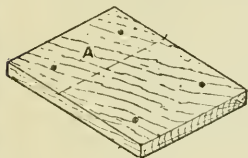
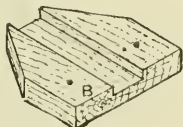

Fig. 16
Fig. 17
Figs. 16 and 17.—Details of Home-made Plough
Home-made ploughs are serviceable tools, and can be constructed from simple material, such as a chisel, some pieces of wood, and a few screws. Knock off the handle from an ordinary $\frac{1}{2}$ -in. chisel having a "shoulder" near the haft, and replace it with a cork; cut to the shape of Fig. 16 a piece of thin wood (say $\frac{1}{4}$ in. thick) $2\frac{1}{2}$ in. in breadth, its length depending on the length of the chisel. Place the chisel on the wood so that the cutting end overhangs about $1\frac{1}{8}$ in.; at the other end mark where the shoulder of the chisel touches the wood, and cut across just above the mark so that the shoulder falls over the edge and allows the chisel to lie flat on the wood. Cut another piece of wood thicker than the last (of full $\frac{1}{2}$ -in. stuff) to the shape of Fig. 17.
B. Put the second piece of wood, groove downwards, on the first one so that the square end B of Fig. 17 rests upon the portion marked A of Fig. 16, allowing the pointed end to overhang. Screw the two pieces together from underneath, taking care
to countersink the screw-heads. In the tunnel thus formed insert the chisel with its *bevelled edge upwards*, as it must always be when in use, and see that it has a rather loose fit. If it is all right, the cutting edge will project about $\frac{3}{8}$ in. at one end, and the shoulder will just fall over the edge at the other end. In a piece of wood c (Fig. 18), measuring, say, 2 in. by $\frac{1}{2}$ in. by $\frac{1}{2}$ in., make a groove of the same width as before, but a trifle deeper than the groove is at B (Fig. 17). Screw this last piece to the foundation A (Fig. 18) so that the groove en-
of course, intended to be pushed to and fro upon the right cheek of the press; but the tool, as it stands, will not cut straight through so as to leave a nice flat surface, but will rise until it has made a "hog's-back." To prevent this, provide a bar of wood *H* (Figs. 18 and 19), which should be fixed at one end to the top *G* of the plough, and should rest at the other end on a guide-rail *J* fixed to the top face of the left cheek of the press. The bar should be rigid, say of $\frac{1}{2}$ -in. stuff about 8 in. long, and be fixed to the plough with two screws. The top surface of the rail must be level with the top face of *B* (see Fig. 18); the easiest way to effect this will be to make the rail *J* of the same stuff as Fig. 17, and let it stand at each end on feet *L* (Fig. 18), made of the same stuff as Fig. 16. The bar will then lie quite horizontal across the press. Notice, too, that the rail *J* should be set back 1 in. or more from the inner edge of the left cheek, otherwise it will interfere with the "backing" operations.